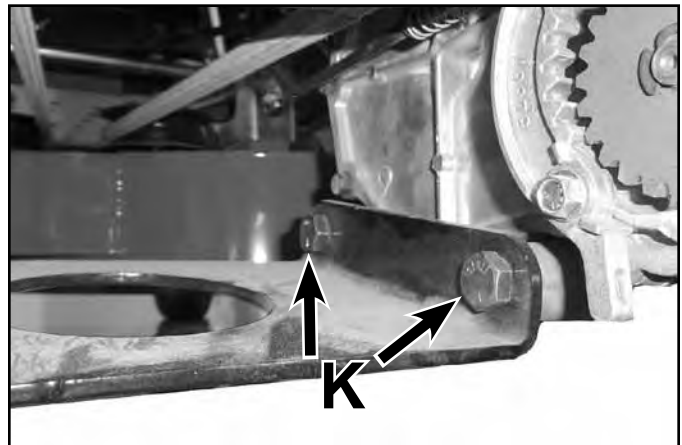

Fig. 077
2nd - Torque the (4) fasteners (K) to specification – 50 ft-lbs. (69 Nm) (Fig. 077)